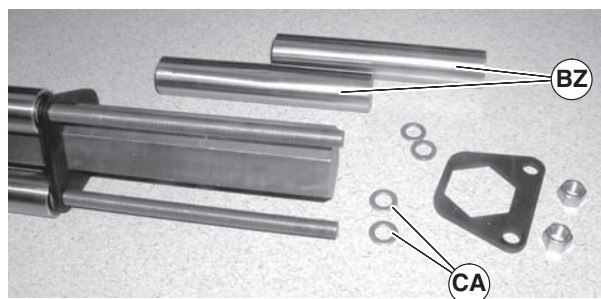

Figure 61
7. Remove pulleys (Figure 61, item BZ) and additional washers (CA).